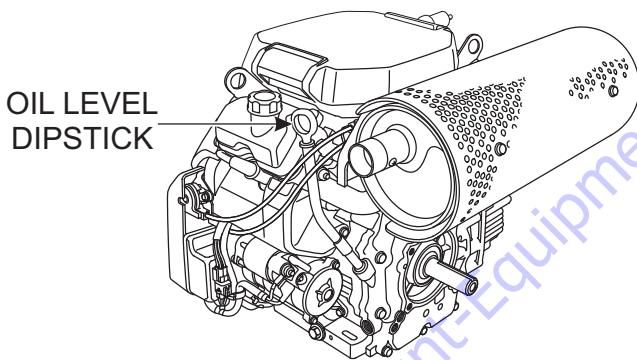

Figure 9. Engine Oil Dipstick Removal
2. Remove the dipstick from its holder (Figure 9) and wipe clean.